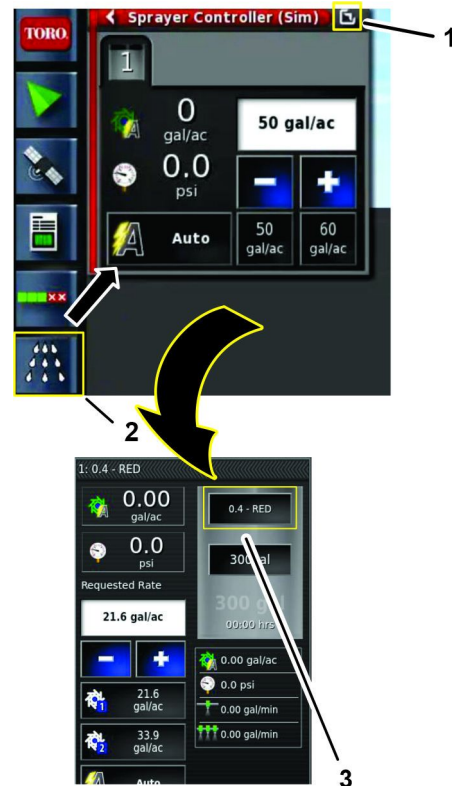

Figure 156
2. Press the SPRAYER CONTROLLER icon and press the expand view icon in the sprayer-controller panel (Figure 156).